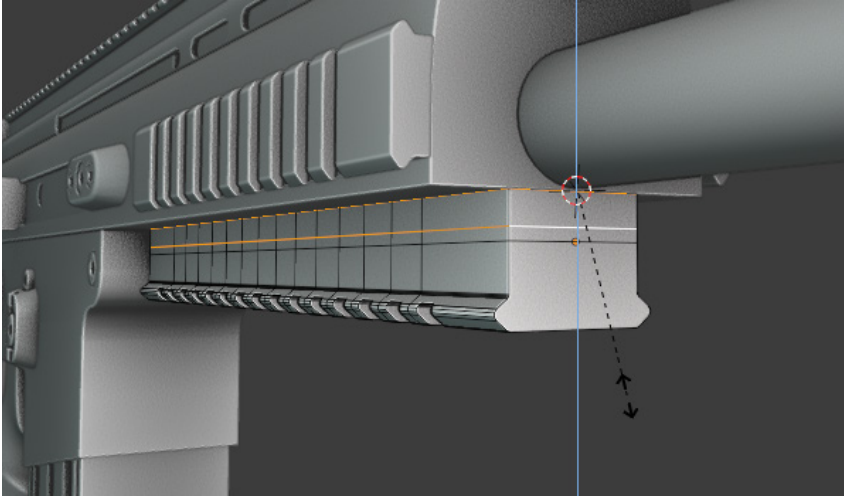

Figure 3.42 – Bottom rail
9. Extend the base of the lower rail so it reaches the bottom of the handguard. You can do this precisely by scaling it to zero with the 3D Cursor as the pivot point. We will also add a few loop cuts around the base, like in *Figure 3.42*.